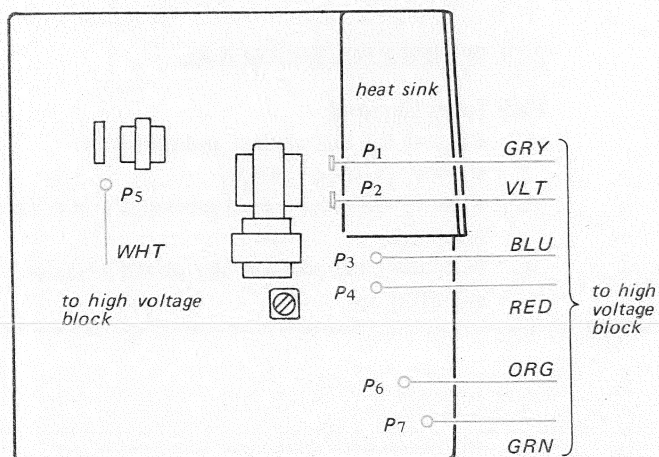

Fig. 2-18
3. Unsolder the four lead-wires on the EF board labeled P1–P4 in Fig. 2-18.
4. Pull out the three pin-plugs on the EF board labeled P5–P7 in Fig. 2-18.